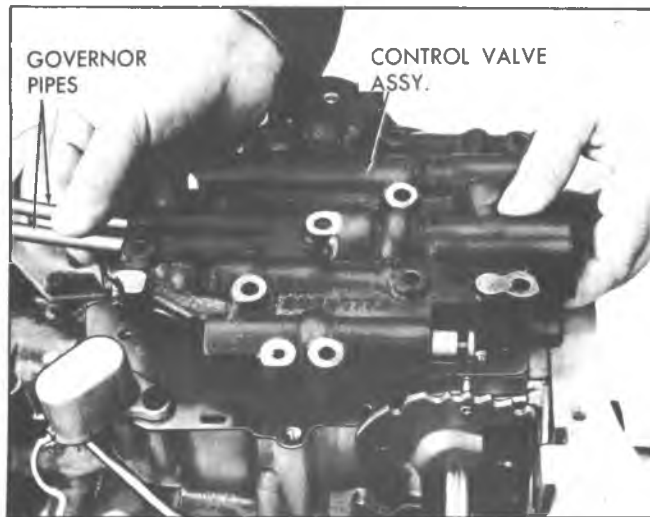

Fig. 7A-10C--Removing Control Valve Assembly and Governor Pipes from Case
2. Remove control valve assembly and governor pipes (Fig. 7A-10C). Do not drop manual valve.